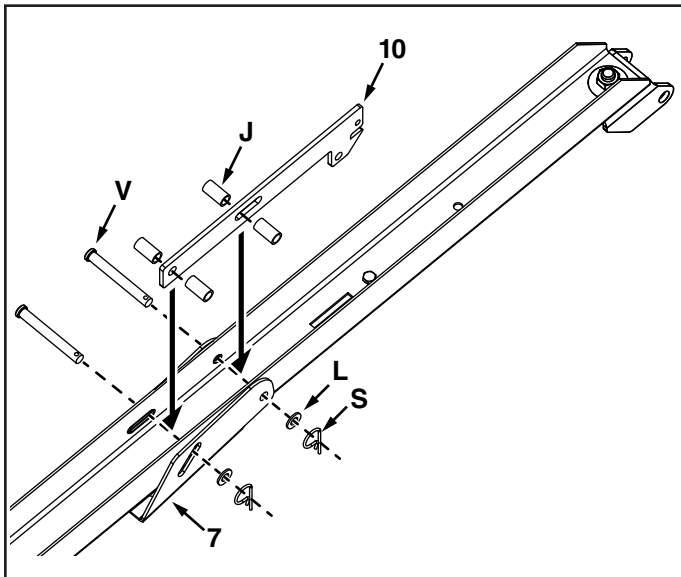

FIGURE 4
STEP 4: (SEE FIGURE 4)
1. Attach the pedal bracket (7) and the latch (10) to the tongue using two $\frac{3}{8}$ " x $3\text{-}\frac{1}{4}$ " clevis pins (V), four spacers (J), two $\frac{3}{8}$ " x .875" washers (L), and two $\frac{3}{32}$ " x $\frac{1}{8}$ " hair pins (S).